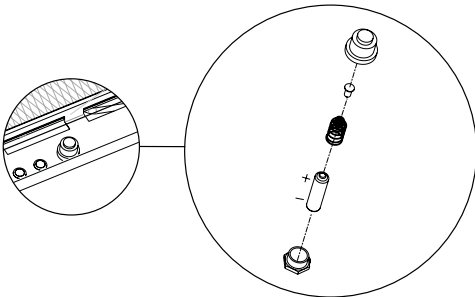

Figure 25
4. Unscrew the igniter button and install the AA battery provided in the instruction envelope prior to closing the control door. See **Figure 25**.